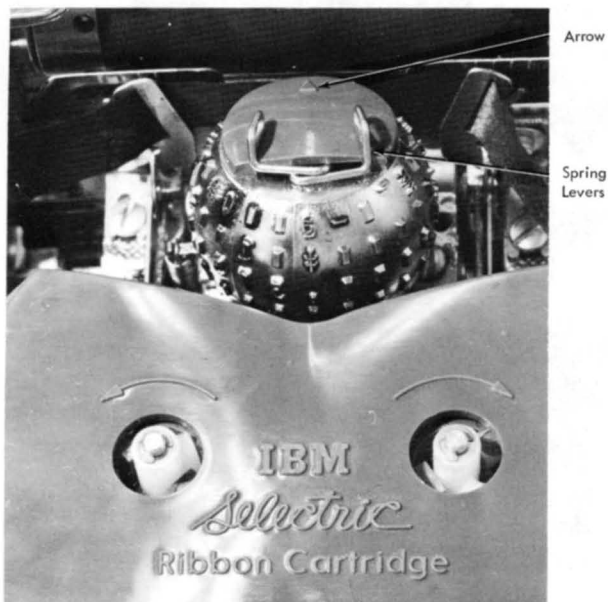

Figure 88. Typing Element in Position
1. Place the typewriter in lower case, so that the arrow on the typing element points toward the platen (Figure 88).